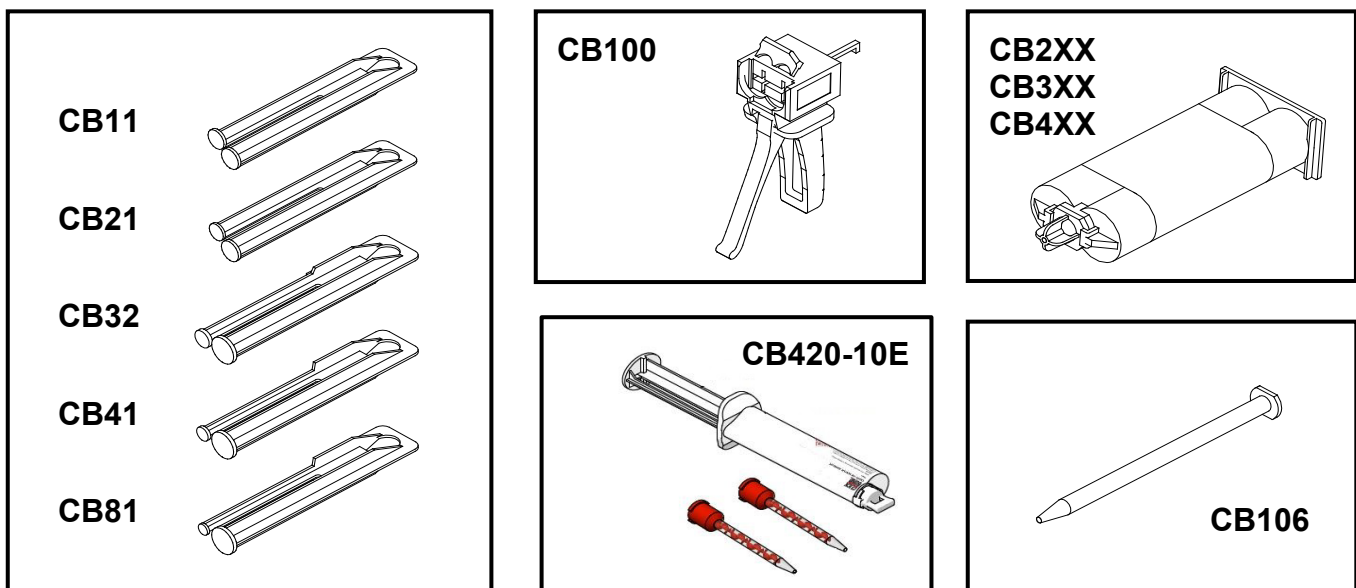

FIGURE 4. ADHESIVE APPLICATOR COMPONENTS
2.5.2 **Pre-proportioned Adhesive Dispenser Kit** – Refer to Table II to select the appropriate adhesive applicator for the adhesive dispenser kit being used. Figure 4 shows the adhesive applicator components.